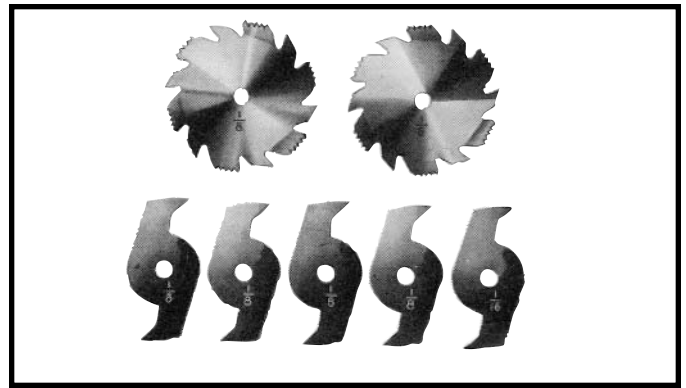
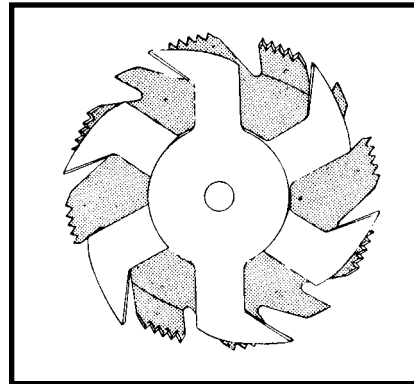
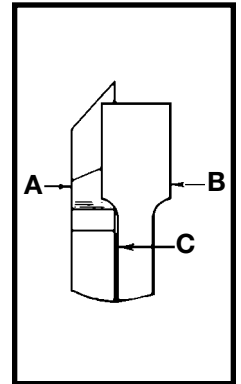

Fig. 89
Fig. 90
Fig. 91
Dadoing is cutting a rabbet or wide groove into the work. Most dado head sets are made up of two outside saws and four or five inside cutters, as shown in Fig. 89. Various combinations of saws and cutters are used to cut grooves from 1/8" to 13/16" for use in shelving, making joints, tenoning, grooving, etc. The cutters are heavily swaged and must be arranged so that this heavy portion falls in the gullets of the outside saws, as shown in Fig. 90. The saw and cutter overlap is shown in Fig. 91, (A) being the outside saw, (B) an inside cutter, and (C) a paper washer or washers which can be used as needed to control the exact width of groove. A 1/4" groove is cut by using the two outside saws. The teeth of the saws should be positioned so that the raker on one saw is beside the cutting teeth on the other saw.